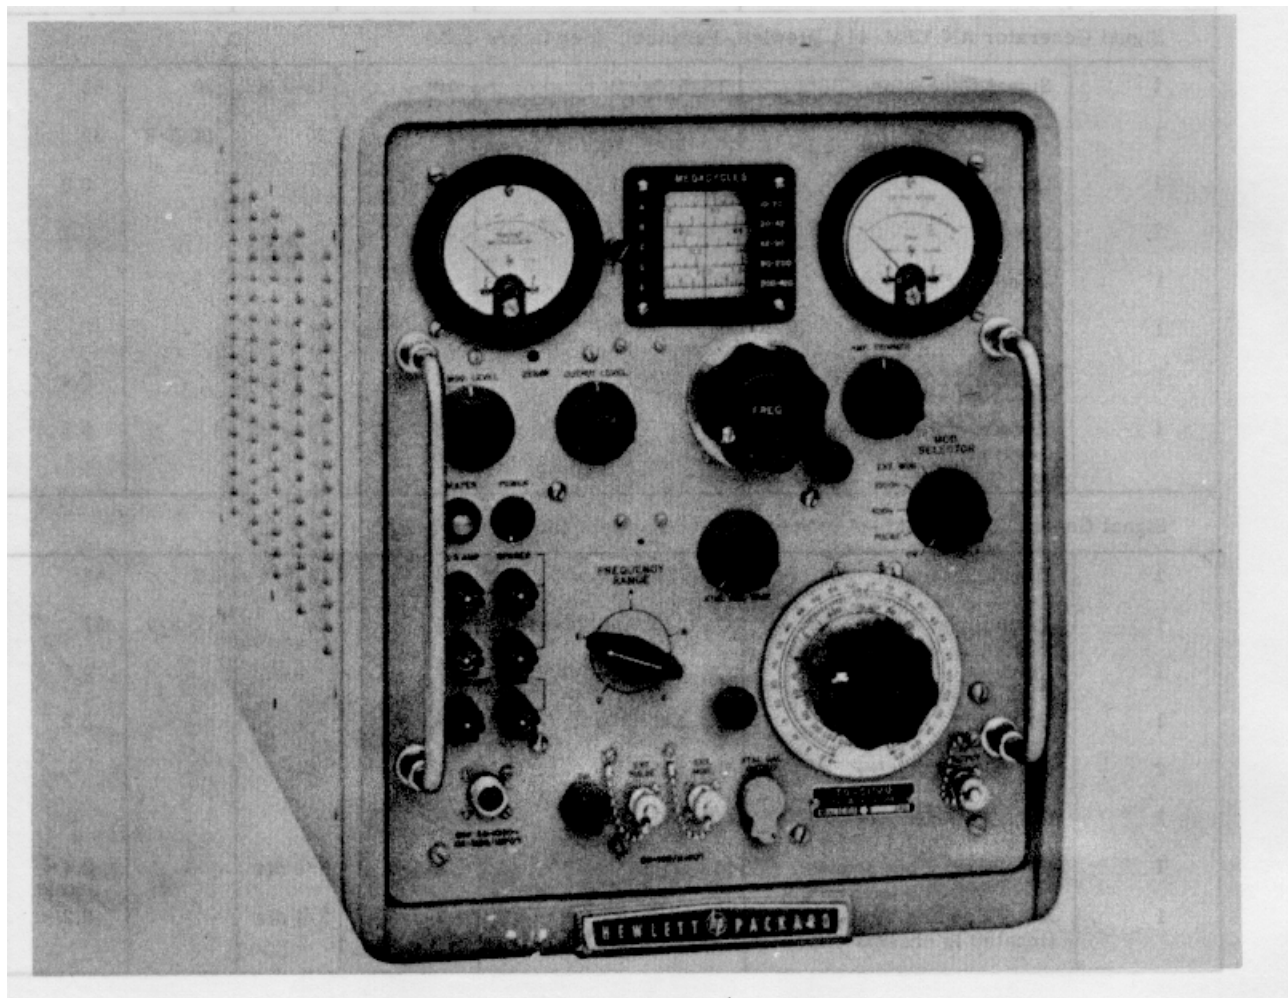

Figure 1-4. Signal Generator TS-510/U (Hewlett-Packard)
**1-3.** The main component of Signal Generator Test Set AN/USM-44 is Signal Generator TS-510/U (see figure 1-4). The main component of Signal Generator Test Set AN/USM-44A manufactured by the Hewlett-Packard Company under Orders No. NOasN38333733A, N383-36708A, and N383-47671A is the Signal Generator TS-
**1-16. ELECTRICAL CHARACTERISTICS.** (See figures 1-4, 1-5 and 1-6.)